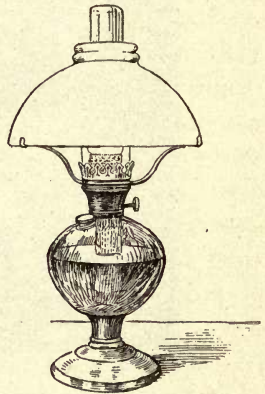

FIG. 218.— A Kerosene Lamp.
**The Kerosene Lamp.** — The discovery of petroleum gave a distinct impetus to lighting problems. Many forms of the kerosene lamp were placed on the market. The success of the kerosene lamp requires that the kerosene be burned in a good supply of air; otherwise the lamp will smoke (Figure 218).